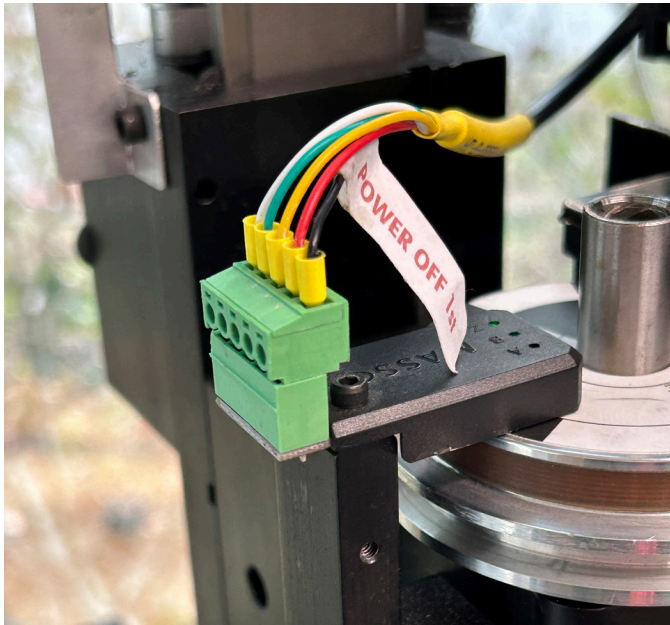

FIGURE 8—Closeup of the optical encoder connector.
4. Connect the green encoder connector to the encoder. Make sure that all of the connector prongs are in the correct connector receptacles (see Figure 8).